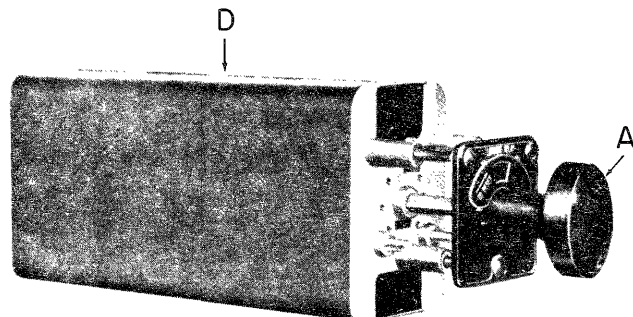

Fig. 1. Type HEA Auxiliary relay
- A. Figures 1 through 4 indicate that the reference letter for the handle is "A".